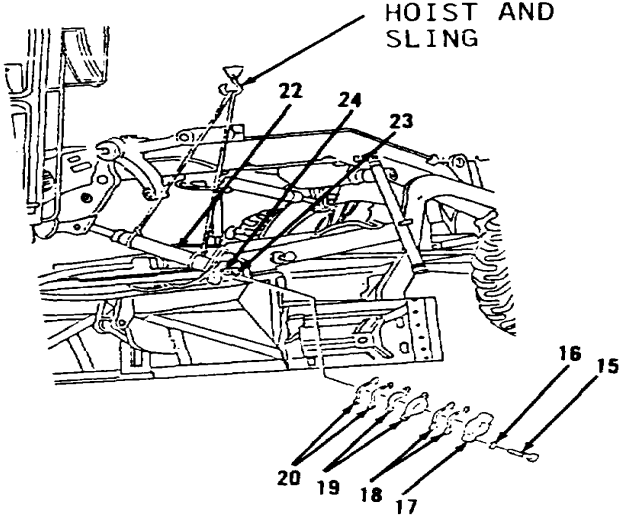

Figure 10-123.
- 20. Operate centershift control. Move centershift cylinder (22, Figure 10-123) through at least five full movements of travel to bleed air from system.
- 22. Inspect hose assemblies, fittings and cylinder (22) for leaks.